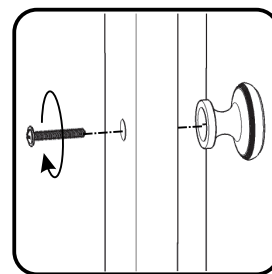

Figure 5
Attach Knobs to Doors (K) and (L) with Machine Screws. (See Figure 5)